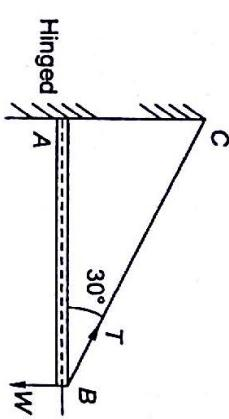

Fig. 3.63
- 3.6 A bar ABC hinged at A , carries a load W at its end B . It is held in position by a string as shown in Fig. 3.63. Angle $ABC = 30^\circ$. What is tension in string?